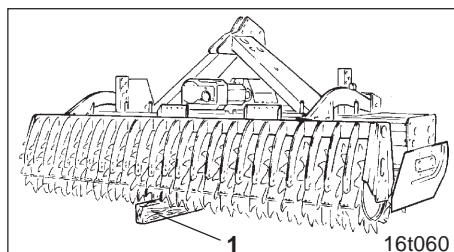

Fig. 11.2
- Raise the soil tillage implement using the tractor's hydraulic system and then lower the entire weight of the culti packer roller onto a block of wood (Fig. 11.2/1) placed beneath the middle of the roller. The frame of the culti packer roller thus bends as it would during operation when the soil tillage implement is supported on the culti packer roller.